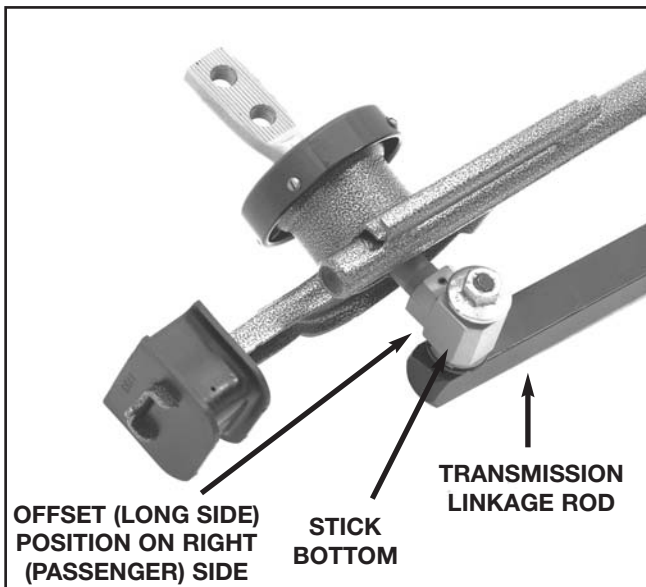

Figure 2
- From underneath the car, use a 13mm wrench to remove the hex nut that secures the transmission linkage rod to the bottom of the factory shifter (see fig.2). Disconnect the rod by pulling it out of the shifter stick bottom.
6. Lightly lubricate stem on shift rod linkage and insert into bushings located in shifter stick bottom. **Important: Offset (long side) of connector located on stick bottom should be positioned to the right (passenger) side (see fig.2).** Fasten with hex nut previously removed and tighten securely using a 13mm wrench. **Note: We recommend using thread locker on the threads to prevent loosening.**
7. From inside the car, attach the Hurst upper stick to the stick bottom with the two (2) button head socket bolts and star tooth lock washers supplied. **Important: Be sure that serrations on upper stick engage serrations on stick bottom.** Using a 7/32" hex key wrench, tighten bolts 30-35 ft. lbs. torque.